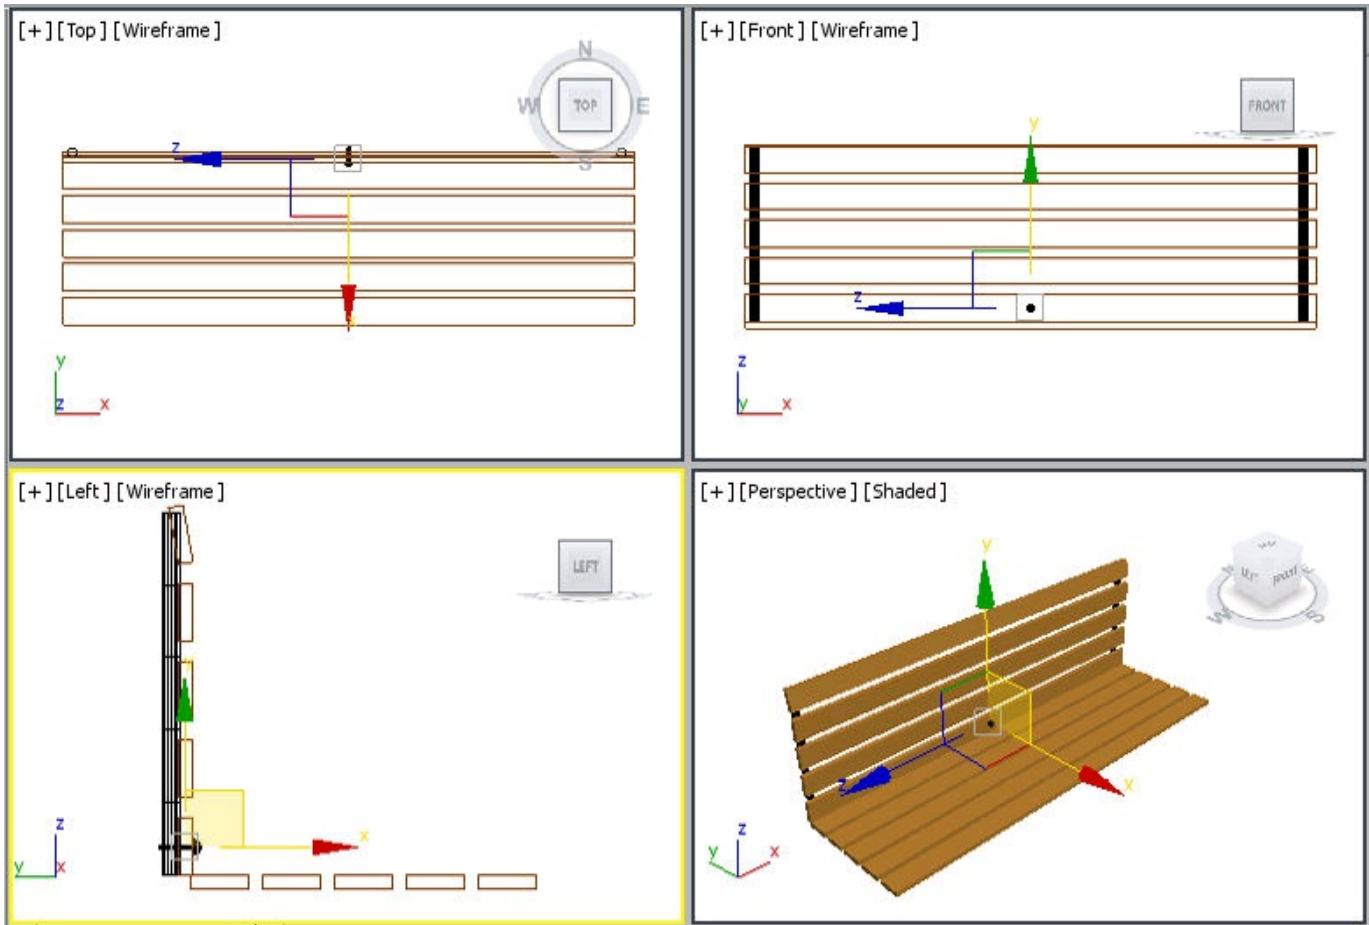

Figure 2-80 Alignment of rivet001 with horizontal back support
3. Choose the **Select and Move** tool and align *rivet001* with *horizontal back support* in the viewports, as shown in Figure 2-80.